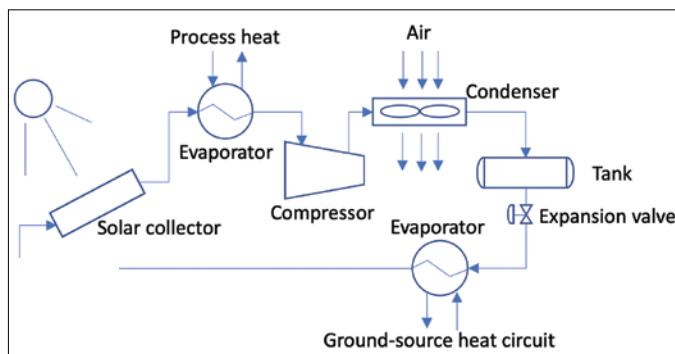

FIGURE 6c. This ground-to-air heat pump has solar and process heat boosts
- Systems involving different evaporators to capture heat from different sources, such as geothermal, solar collectors and waste heat (Figure 6c)